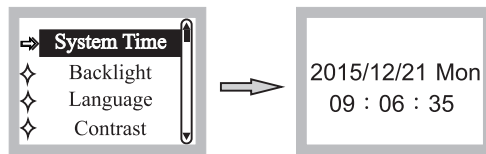

Fig. 18
- (3) Changing Date & Time: Press PLAY/PAUSE ⏸ to enter the System Time setting mode, press PRV/TEN ◀◀ or NEXT/TEN ▶▶ to change. Press PLAY/PAUSE to confirm, Fig. 18.